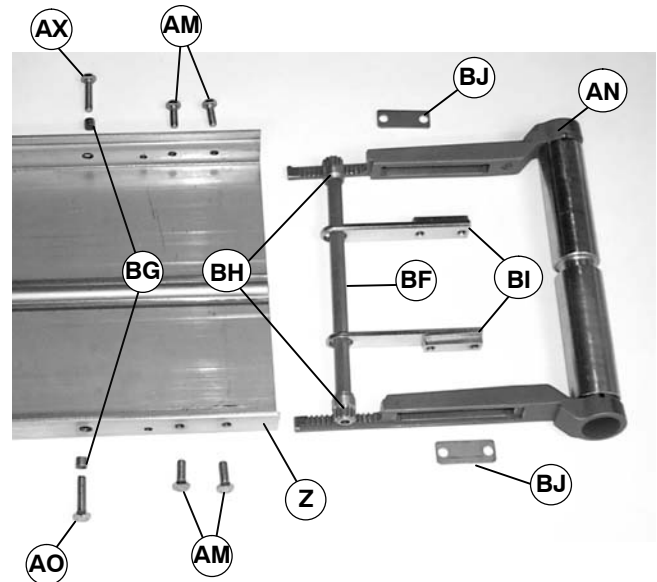

Figure 33
4. Remove two M6 hex head cap screws (AM) from each side of conveyor.
5. Remove two pinion ends (BH of Figure 33), clamp blocks (BI), hex pinion (BF), two spacers (BJ) and tail assembly (AN) from conveyor (Z).
IMPORTANT: Loosely install two spacers (BJ of Figures 33 and 41) and four screws (AM) prior to installing idler tail assembly (AN) on conveyor.